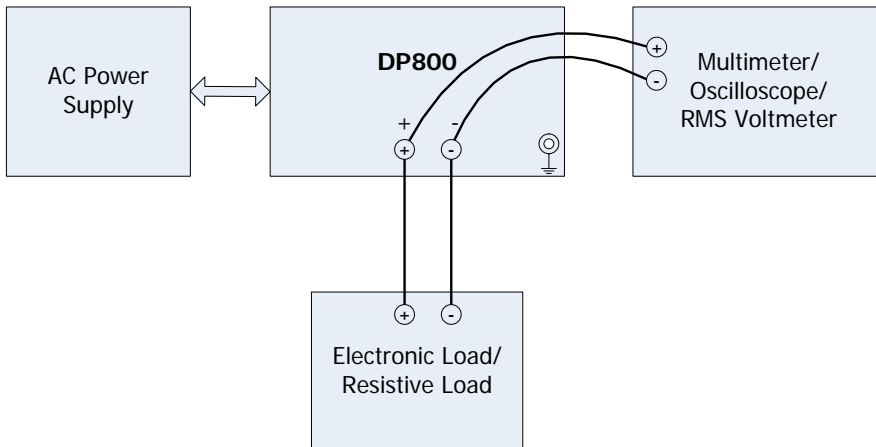
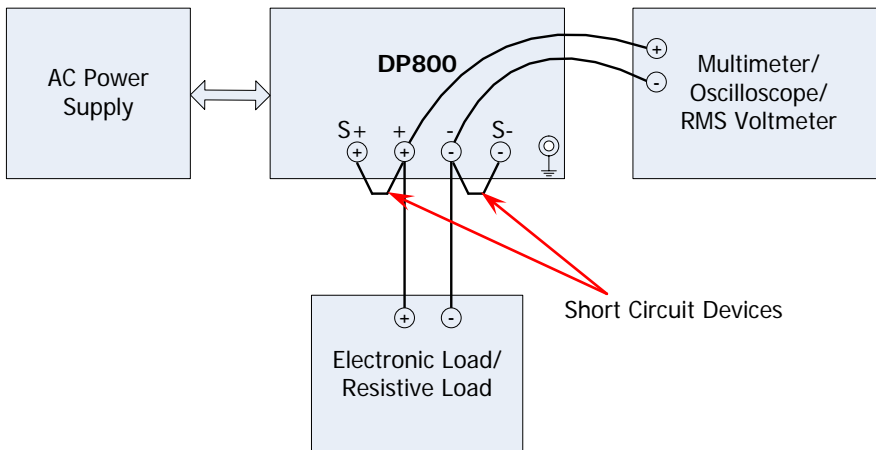

Figure 2-1 CV Test Connections
Figure 2-2 CV Test Connections (Sense)
5. The test connecting wires used should be as short as possible. For the channels that support the Sense function, please short-circuit the (S+) and (+) terminals, (S-) and (-) terminals (as shown in Figure 2-2 or Figure 3-2) of the channels respectively and turn on the Sense function of the corresponding channel before performing the test.
Before performing the tests, select the appropriate voltage via the “voltage selector” at the rear panel of the power supply according to the AC line voltage of the country (230V is taken as an example in all the tests in this manual). Under normal temperature (about 25°C), make connections according to Figure 2-1 or Figure 2-2 using the devices recommended in “**Recommended Test Devices**”. During the test process, please set the voltage of the AC power supply according to the voltage selected of the “voltage selector” at the rear panel of the power supply.
During the CV tests, make connections according to Figure 2-1 for the normal channels (namely the channels that do not support the Sense function) of the DP800 series power supply. For the channels that support the Sense function (CH2 of DP821A and DP811A), make connections according to Figure 2-2 (note to short-circuit the (S+) and (+) terminals, (S-) and (-) terminals of the channel respectively) and turn on the Sense function of the channel during the test process to measure the specifications under Sense mode.
1. Turn off DP800. Connect DP800, AC power supply, electronic load and multimeter according to Figure 2-1. Both the electronic load and multimeter are connected with the channel output terminals of DP800; please refer to “**Test Precautions**” for the connection method. Here, CH1 is taken as an example and the connection method is also applicable to CH2 and CH3.
- For the channels that support the Sense function of DP800 series, please connect DP800, AC power supply, electronic load and multimeter according to Figure 2-2 and turn on the Sense function of the channel after selecting the current channel in step 3.